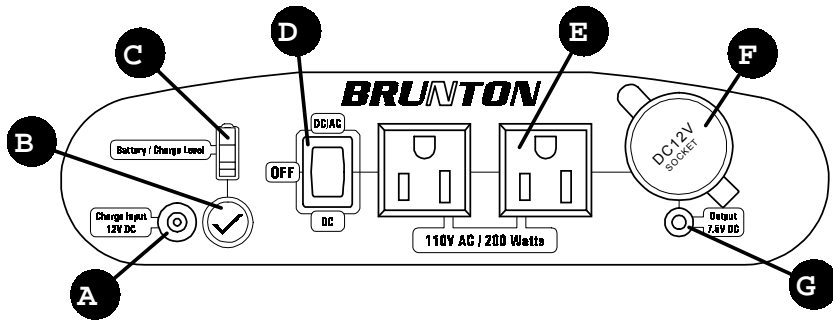

Figure 1
- The three-position switch may be in any position during the charge cycle. (Fig. 1)  $\gamma$
- All charge sources connect to the same 2.1mm x 5.5mm Charge Input Barrel Jack in the lower left corner of the power pack's front panel. (Figure 1)  $\delta$
- The LEDs will behave as a fuel gauge during the charge cycle. Full Green indicates a full charge. (Figure 1)  $\phi$
- Connect the chosen charge apparatus to the Charge Input Jack in the lower left corner of the power pack's front panel. (Figure 1)  $\delta$
- Turn the three-position switch to the "off" or "DC" position when not using the AC power source to conserve battery life. (Figure 1)  $\gamma$
2. Turn the three-position switch near the center of the power pack's front panel to the "AC/DC" position; (Figure 1)  $\gamma$  LEDs should cycle to indicate that power is flowing.
8. Turn the three-position switch to the "off" position. (Figure 1)  $\gamma$